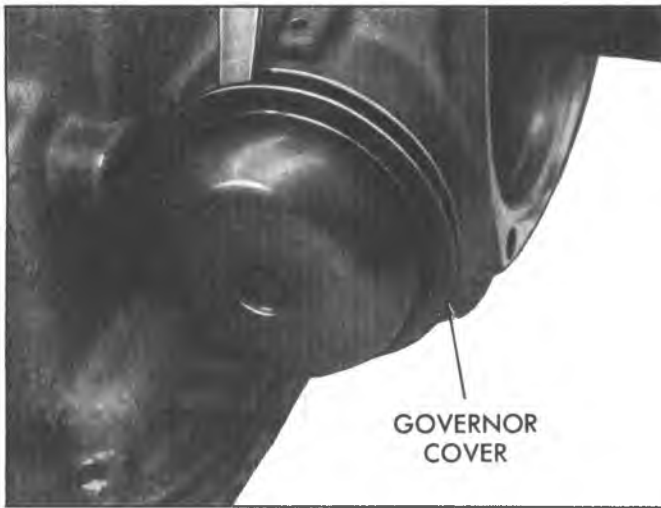

Fig. 6N--Removing Governor Cover
7. Using a screwdriver and hammer, gently tap along governor cover lip (fig. 6N), remove governor cover and "O" ring seal (fig. 7N). Discard seal.